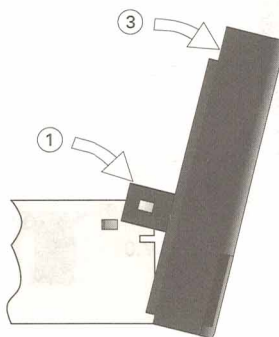

Fig. 2
2. Removing the drive mechanism (Fig. 2 and 3)
- Disengage the two lugs ① on the left and right of the front panel **1.0** and pull the front panel together with the drive mechanism towards the front ②.
- Tip down the front panel by a small amount ③ and undo the four screws **e**.